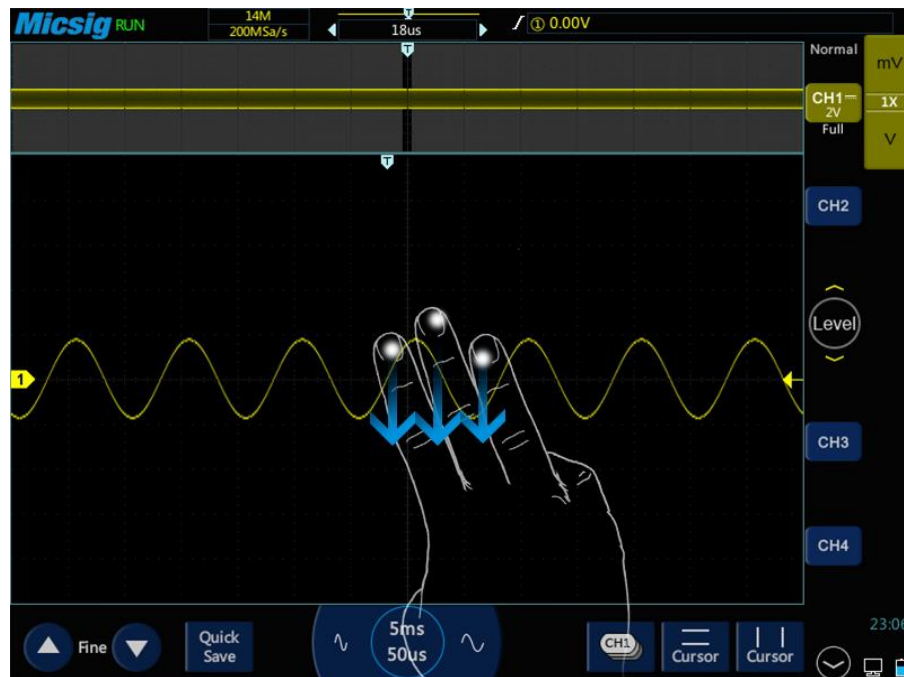

Figure 3-12 Open Zoom Function by Three Fingers Sliding Down
- 2) Put three fingers on the touch screen at the same time, slide down to open zoom mode; slide up to turn off zoom mode. Figure 3-12 shows the operation: